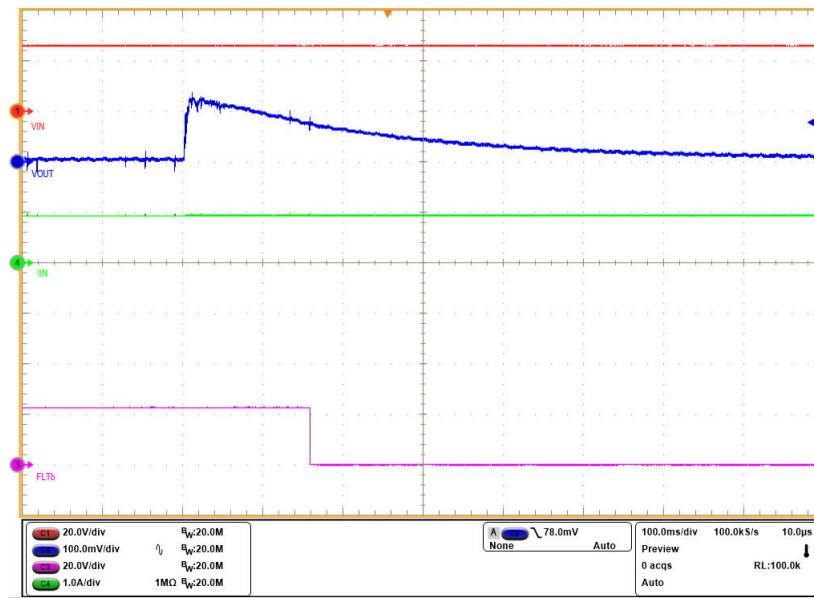

Figure 5-8. IN to OUT Short Response of the TPS1641 Device without External PFET
6. Observe the TPS16412 response. As seen in Figure 5-8, the FLTb asserts after 150 ms (typical) after IN-OUT short is detected. Note that the VOUT is probed in AC coupling mode to observe the jump in the voltage for IN-OUT short.